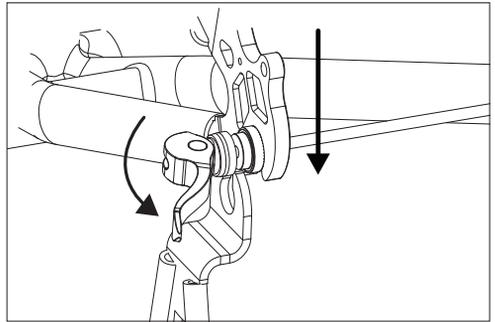

Fig. 41: Lowering bike into Rackstand dropouts.
4. Open the QR lever and lower bike into the RackStand slots (Fig. 41).